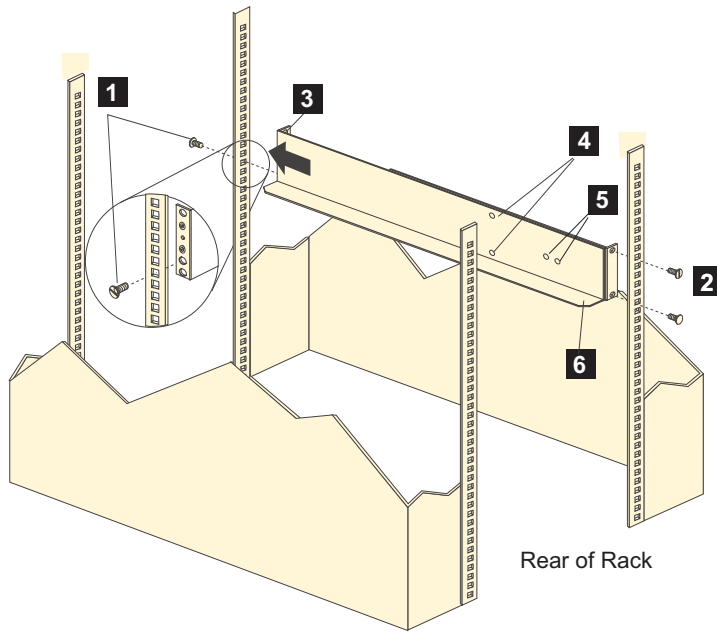

Figure 17. Installing the support rails
Note: Refer to Figure 17 on page 36 while performing these steps.
Note: The support rails are not marked as Left or Right. However, each rail can be correctly mounted on only one side of the rack cabinet. The rails should be mounted with the alignment pins at the back of the rack. Figure 17 on page 36 shows the installation of the left support rail.
2. Remove the four screws from the rails (two screws in each rail). See **4** in Figure 17 on page 36. If you do not remove these screws, the storage expansion enclosure will not fit securely.